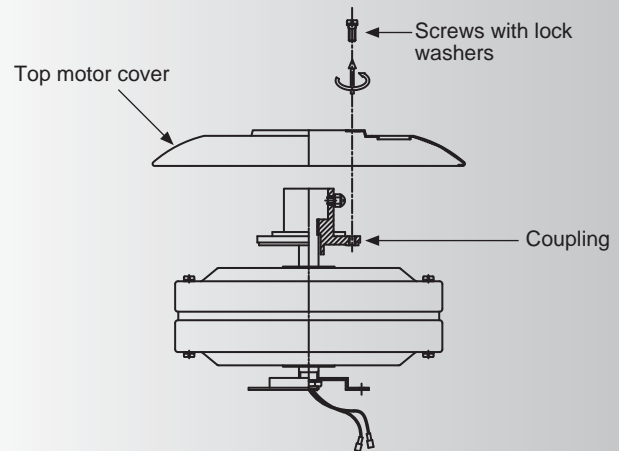

Fig. 5
Step 1. Remove the top motor cover from the top of the motor by removing the six screws and lock washers from the top motor cover. (Fig. 5)